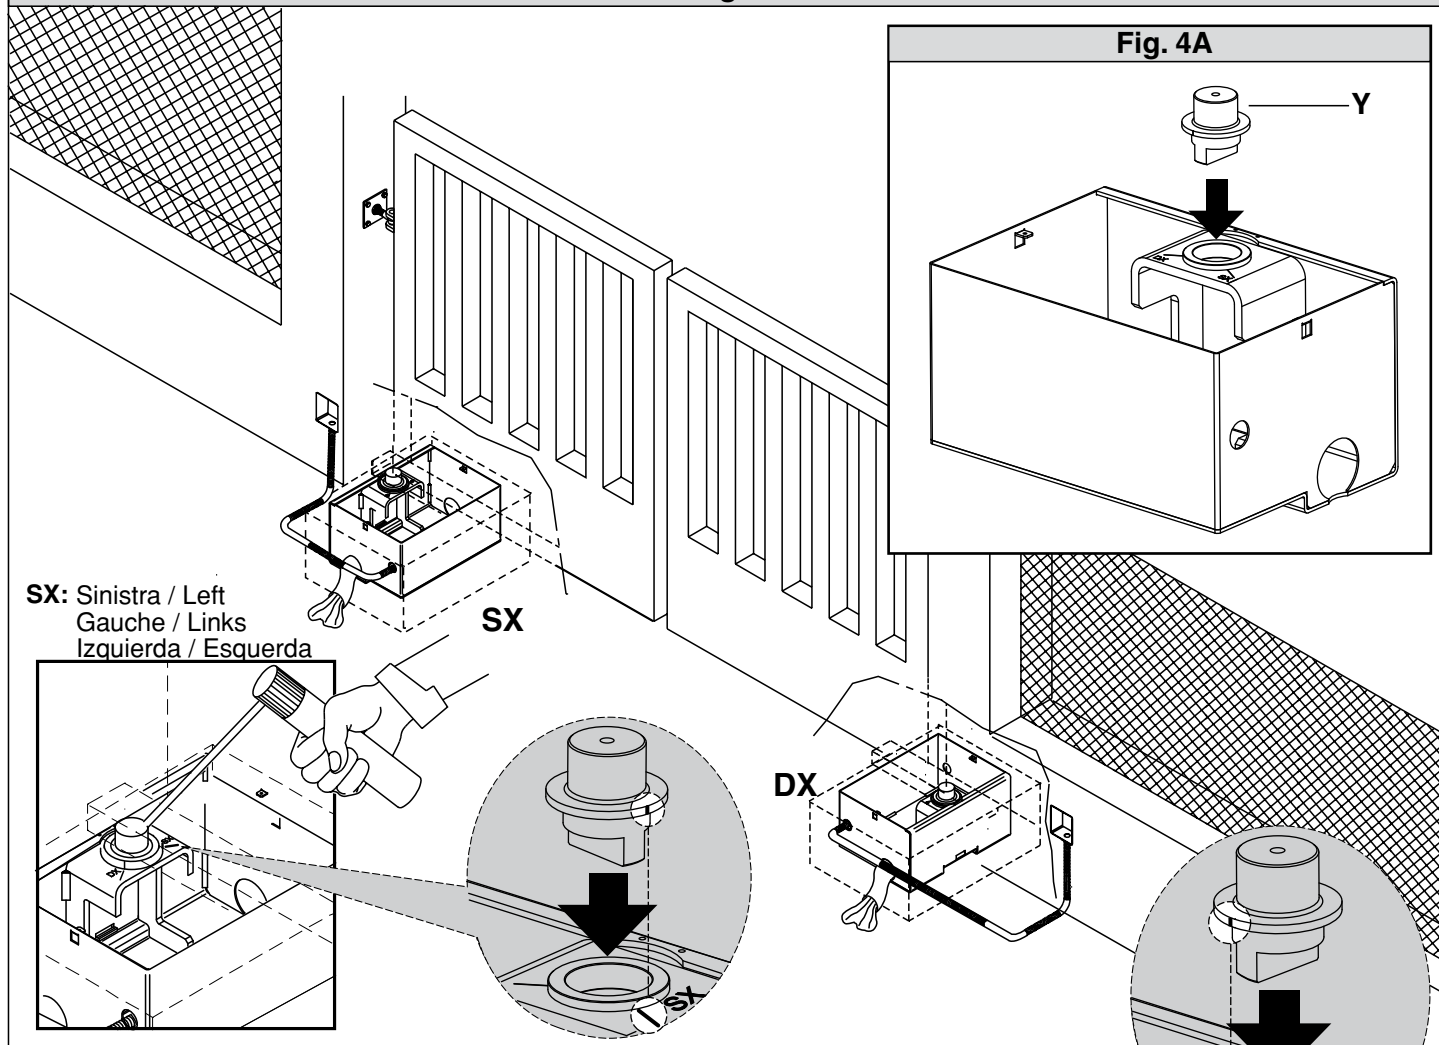

Fig. 4B
- Fit the grooved joint onto to motor shaft (Fig.4B).
- Release the operator using the appropriate triangular key and rotate the output shaft in the leaf closing direction along the entire stroke. To rotate the output driving shaft, you can use an adjustable spanner to be placed on the hollow of the grooved joint. Fig.4B shows the different positions of the splined joint after it has been mounted on the operator, depending on whether the leaf is mounted on the right (DX) or on the left (SX).